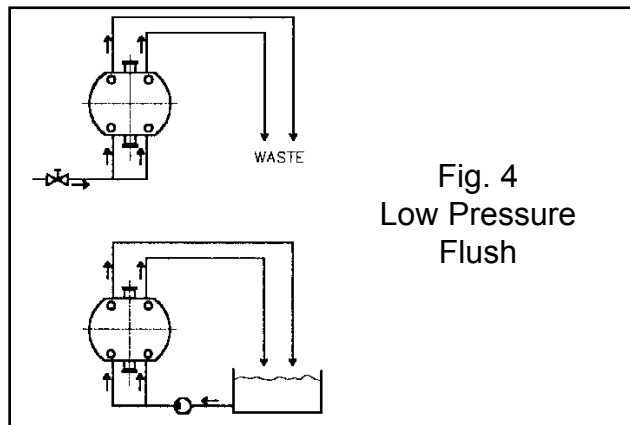

Fig. 4
c) A low-pressure liquid flush (fig. 4), when:
- Pipework should be as shown in the diagram (fig 4).